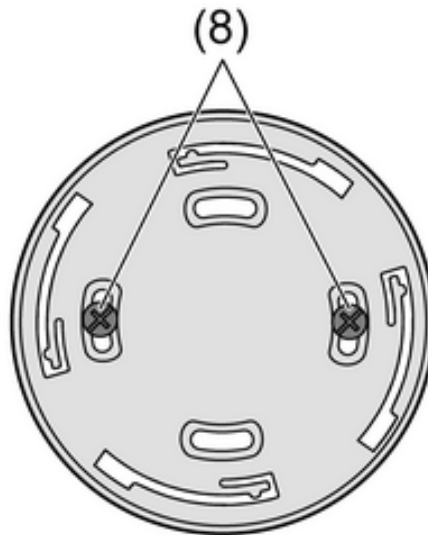

Figure 6
- Fasten the base plate to the ceiling with the supplied screws (8) (Figure 6).